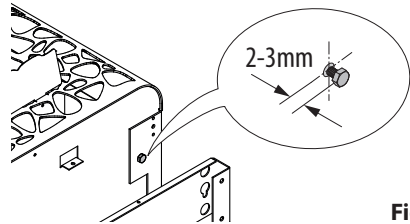

Fig. 7
- There must be a clearance of approx. 2 mm between the screw head and the rear wall of the stove in order to attach the sauna heater. (Fig. 7).